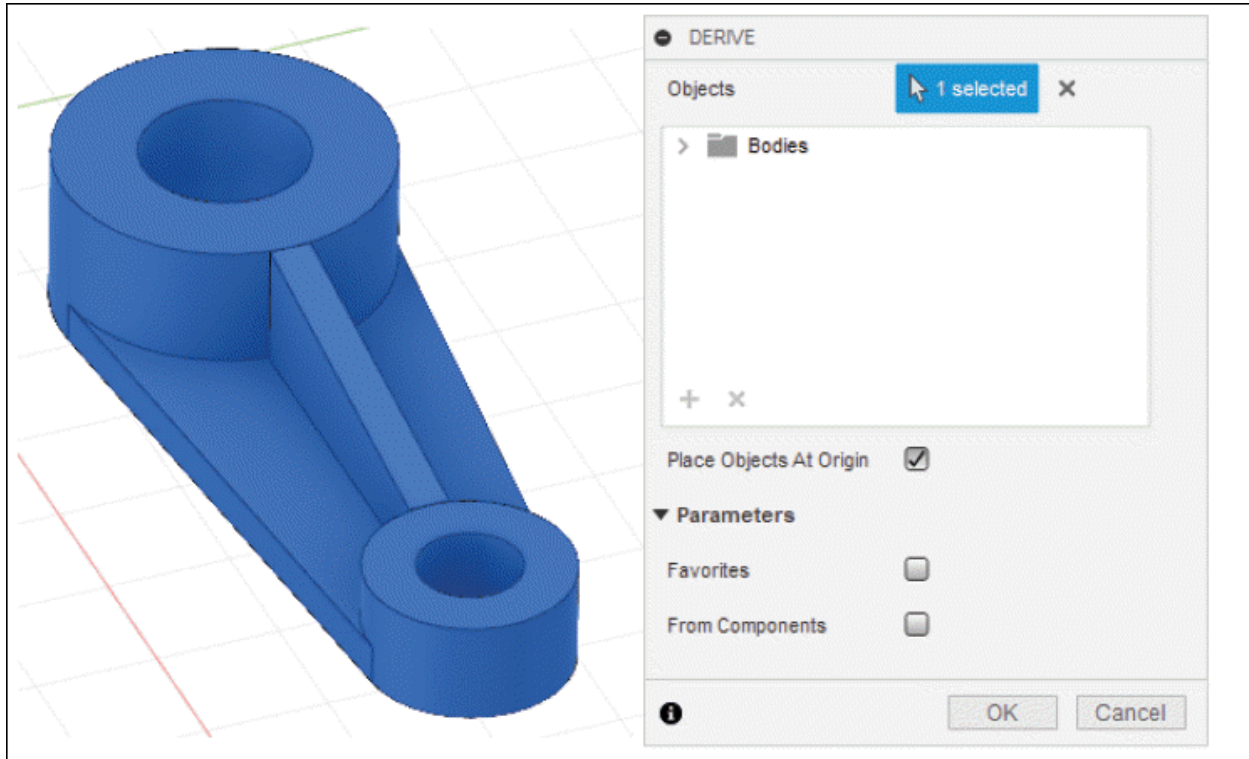

Figure-4. Updated DERIVE dialog box
- The **Select** button of **Model Objects** section is active by default. Click on the inserted component to select the model. The updated **DERIVE** dialog box will be displayed; refer to Figure-4. You can select the sketch and other objects from **BROWSER**.